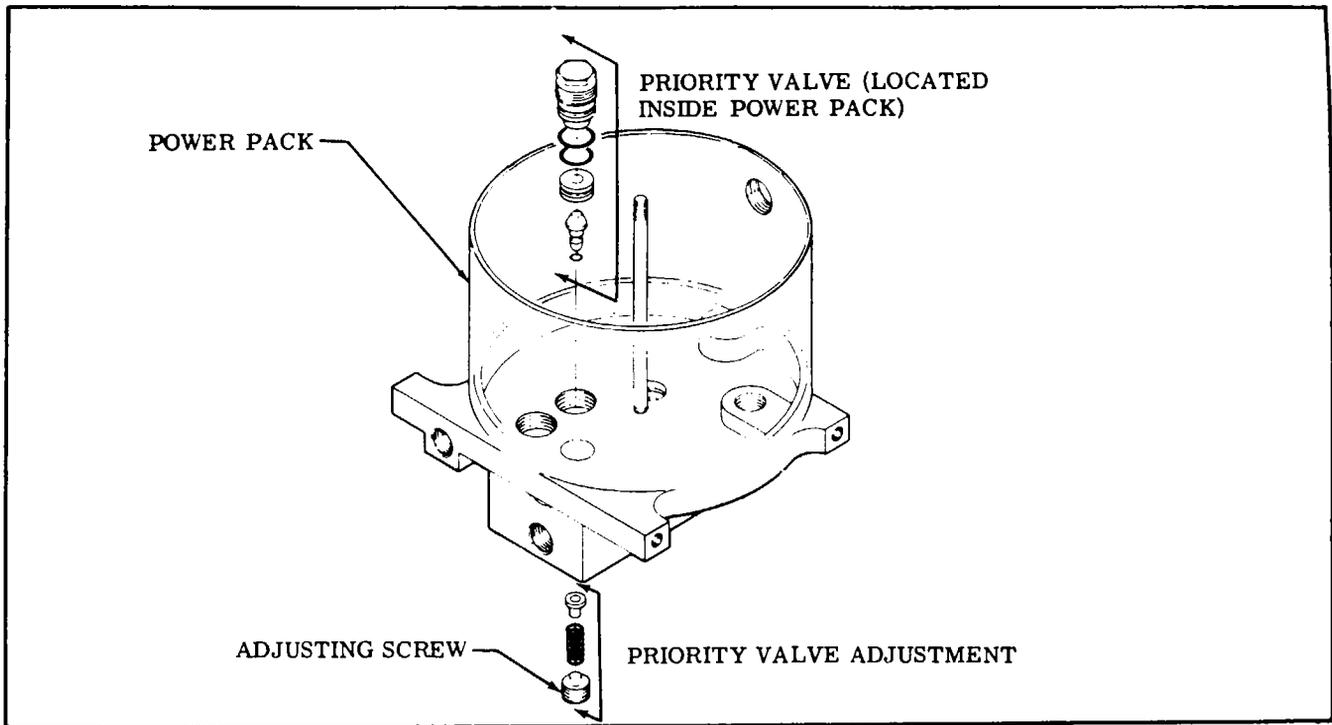

Figure 5-35. Priority Valve Adjustment
5-181. BENCH-TESTING THE PRIORITY VALVE. (Refer to figure 5-35 and the chart following bench-testing procedures.)
- f. If adjustment is required, turn priority valve adjustment screw (refer to figure 5-35) IN to increase